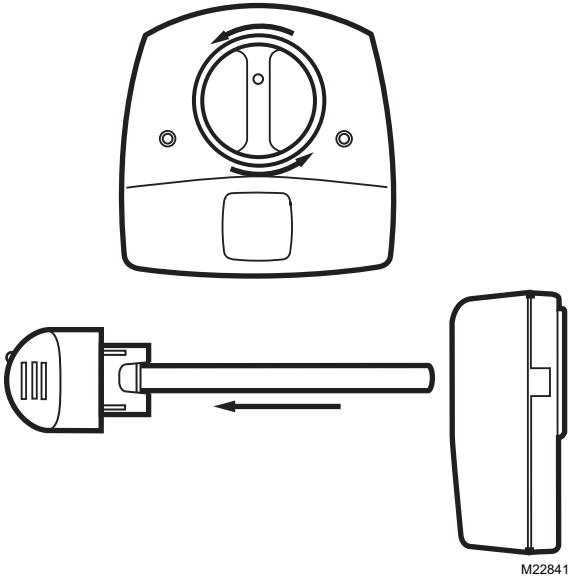

Fig. 11. Remove lamp or bulb.
- Rotate the lamp handle counterclockwise and gently pull the lamp handle to remove the bulb(s). See Fig. 11.